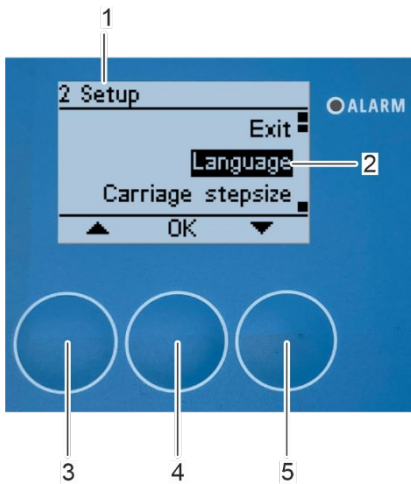

Fig. 123: Select submenu "language"
1. Select the "Language" submenu (Fig. 123/2) with the arrow keys [up] (Fig. 123/3) and [down] (Fig. 123/5).
2. Confirm the selection with [OK] (Fig. 123/4).